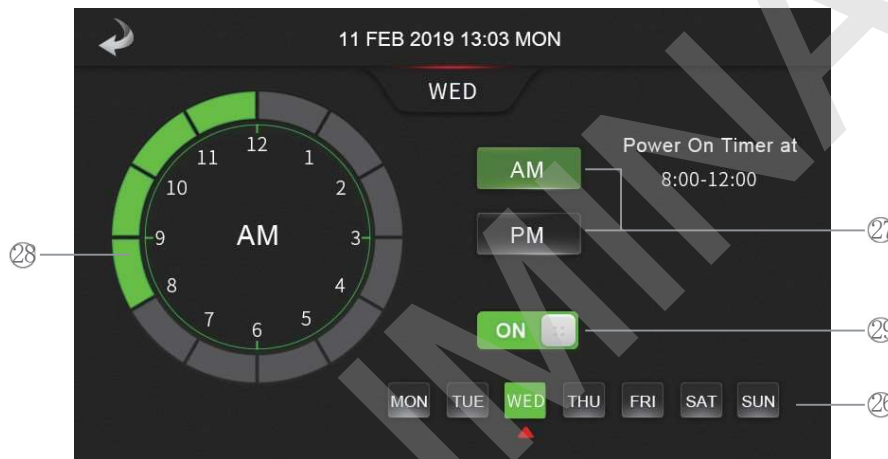

Fig. 6 Power timer interface
2. Next, press the Power Timer button labeled "21" (refer to Fig. 4), which will navigate to the Power Timer interface (refer to Fig. 6).